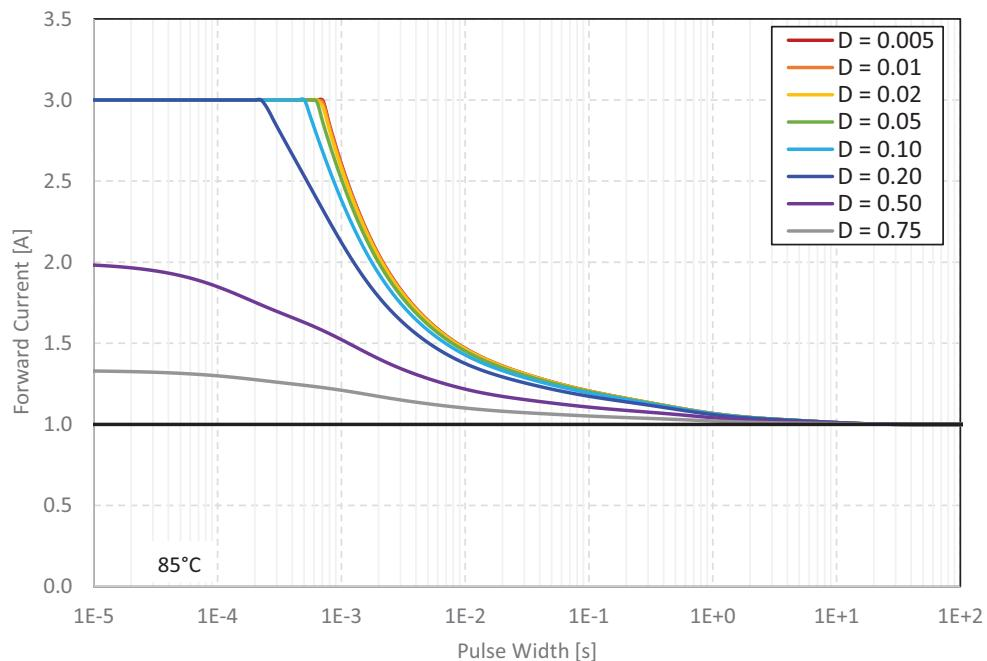

Figure 9. Permissible pulse handling capability for LUXEON IR Compact Line at  $T_j=85^\circ\text{C}$  for various duty cycles (D).
2. Residual periodic variations due to power conversion from alternating current (AC) to direct current (DC), also called “ripple,” are acceptable if the following conditions are met:
3. For pulse handling capability details see figure 9.